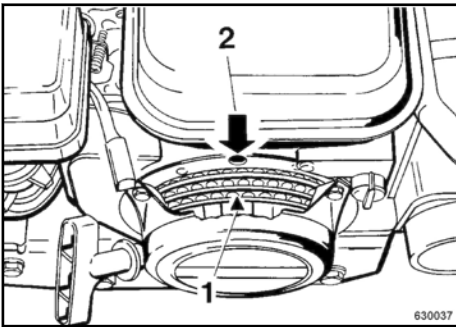

Fig. 73
For this purpose align triangle mark (1) ↺ Fig. 73 on the starter disc to the top bore (2).